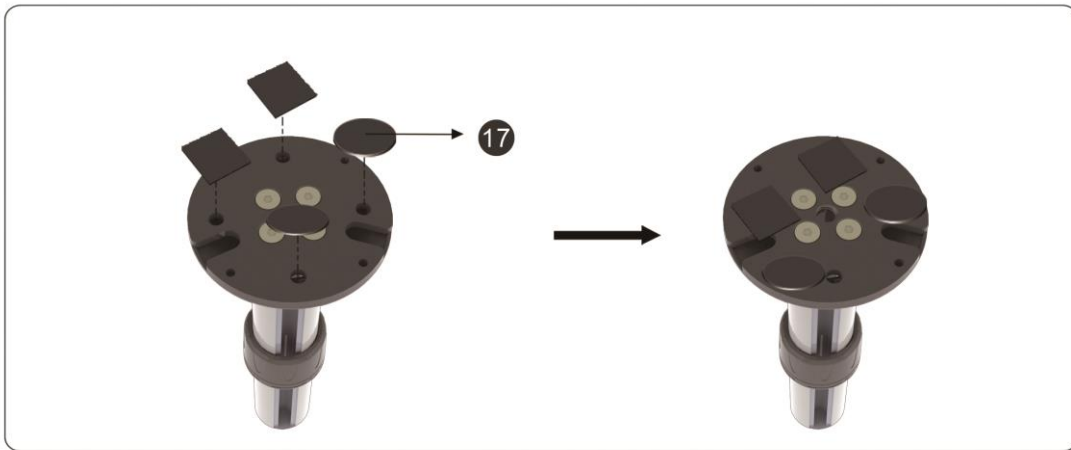

Figure 1-7
1. Attach gasket cushions (17) to the grommet plate (See Figure 1-7).